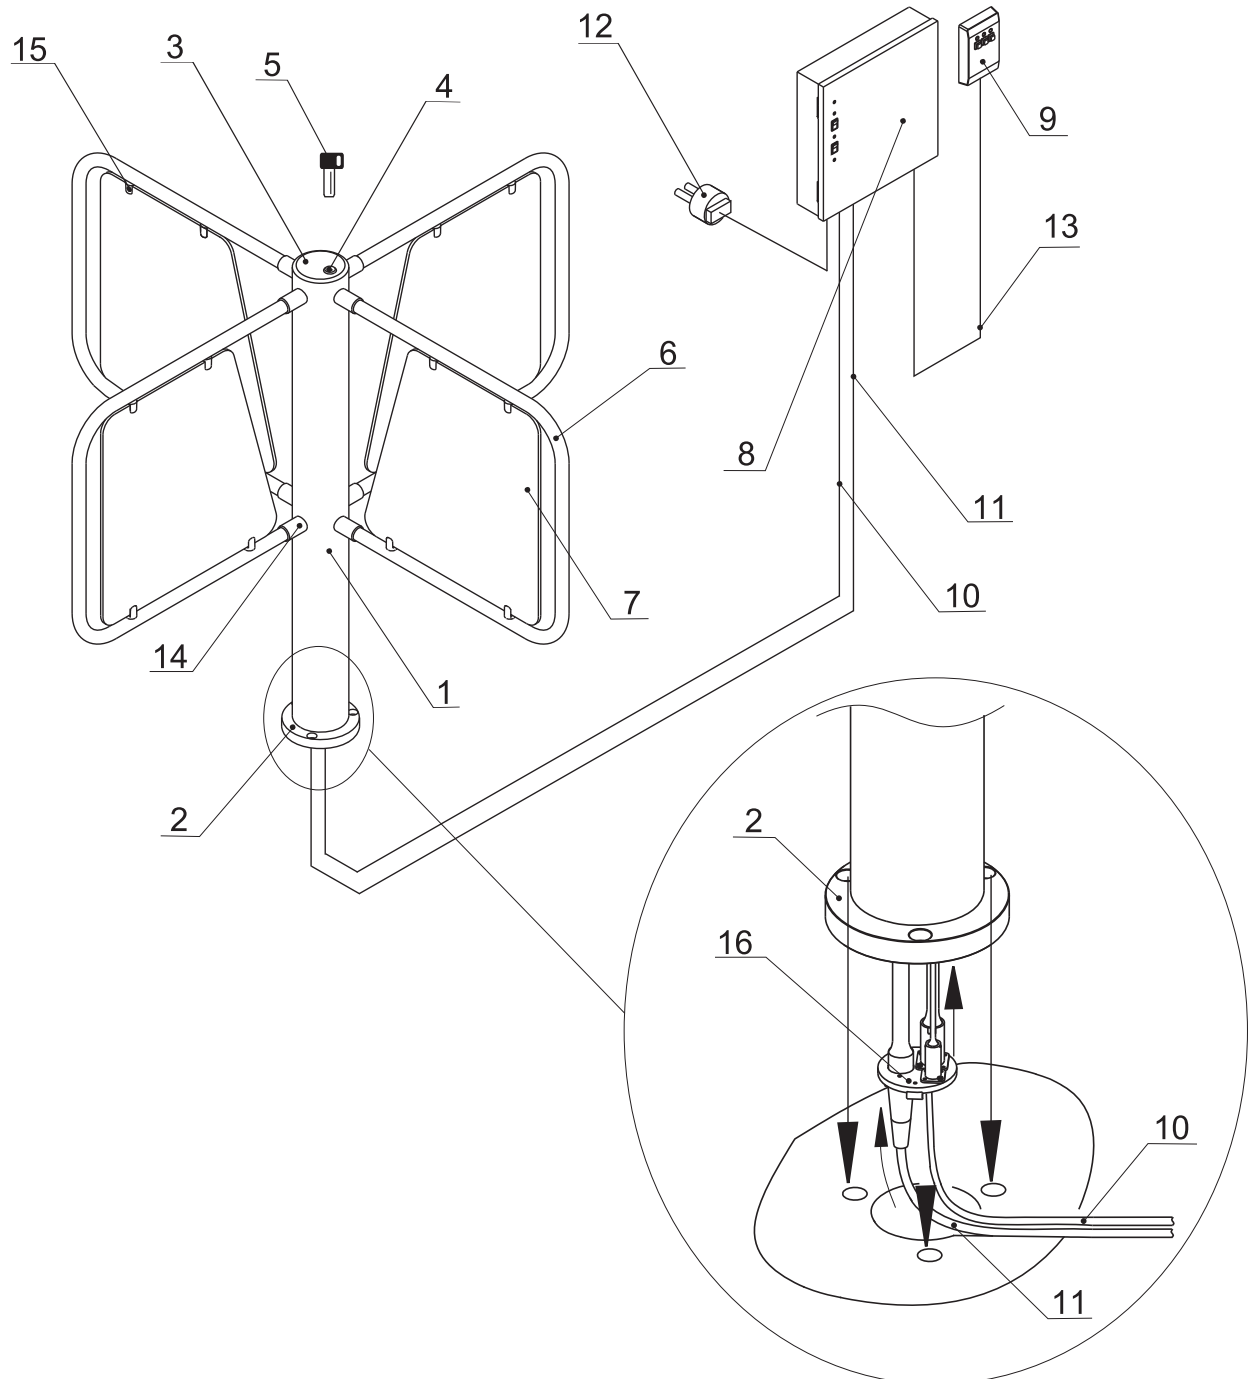

Fig. 1. RTD-03S waist-high rotor turnstile overall view:
The design of the turnstile is shown in Figure 1.
Numbers in brackets correspond to Figure 1
5.2.3. The control unit (CU) (8) (see Fig. 1, 3) is intended for the turnstile units powering and control. It comes as a standalone unit in a metal case with the pull-resistant fasteners for wall mounting. The CU can also be desk-mounted.